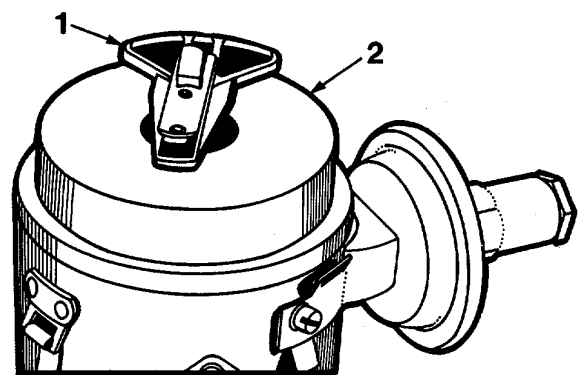

Fig. 7 Distributor Rotor and Dielectric Shield (Dust Cover)
1. Remove rotor and dielectric shield ("dust cover") (Figure 7).